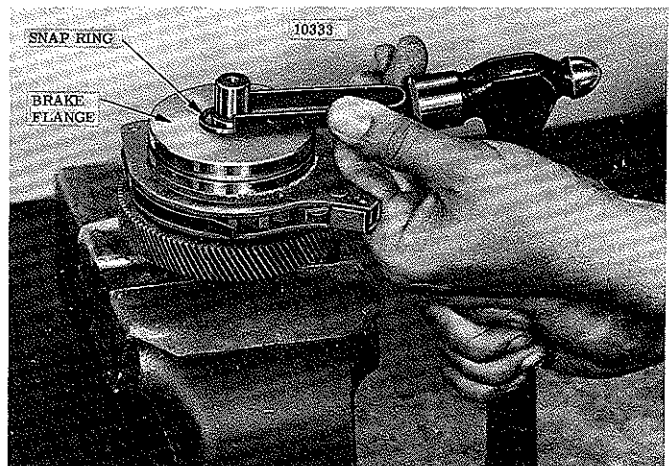

Figure 7-24. Removing Snap Ring from Load Brake Shaft
(1) Place load brake and clutch assembly, flange up, in a vise equipped with brass or copper jaw plates to protect pinion gear teeth. Remove snap ring from end of load brake shaft (fig. 7-24).